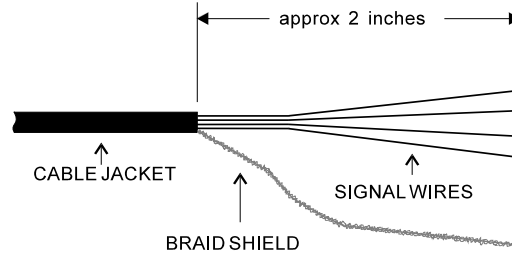

Figure 5: Strain Gage Sensor Cable Stripping
- 1) Strip the sensor cable as shown in Figure 5 below. Be sure not to nick any of the signal conductors or cut the braid shield.